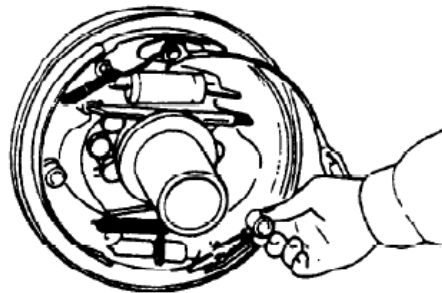

Fig. 2-21
- (5) Install the brake cable assembly on the backing plate with an E-retainer.
- (6) Install shoes on the backing plate with hold-down springs.
- (7) Put the spring on the parking push rod then install the rod on the shoe. (See Fig. 2-21)